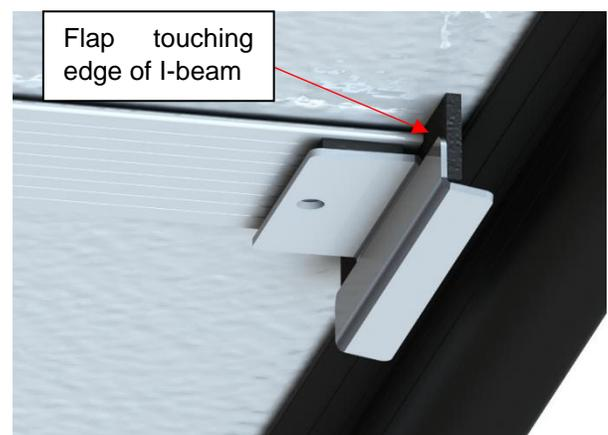

Figure 112
- 4) Stick the wiper bracket on the middle of the I-beam by holding it in place with pressure for at least 60 seconds. This ensures a proper bond to the I-beam. **Make sure you place the wiper bracket flap at the edge of the I-beam directly into the gap between the I-beam and the C-channel** (Figure 112)